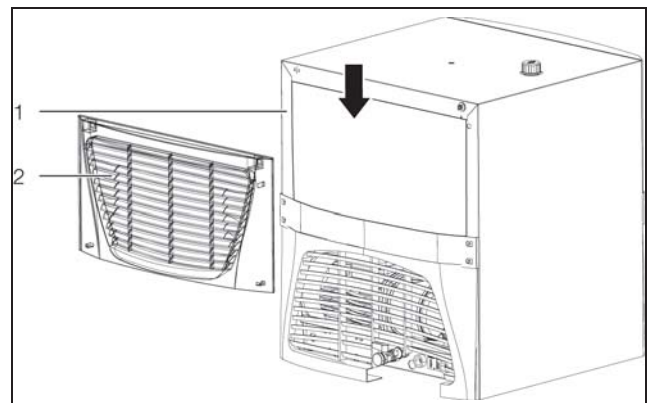

Fig. 49: Installing the filter mat (3320.600 and 3334.600)
- Remove the upper and lower louvred grille (fig. 49, item 1) on the rear of the chiller by carefully pulling it off the housing.
- Insert the filter mat (fig. 49, item 2) (Model No. 3286.520) into the chiller from above.